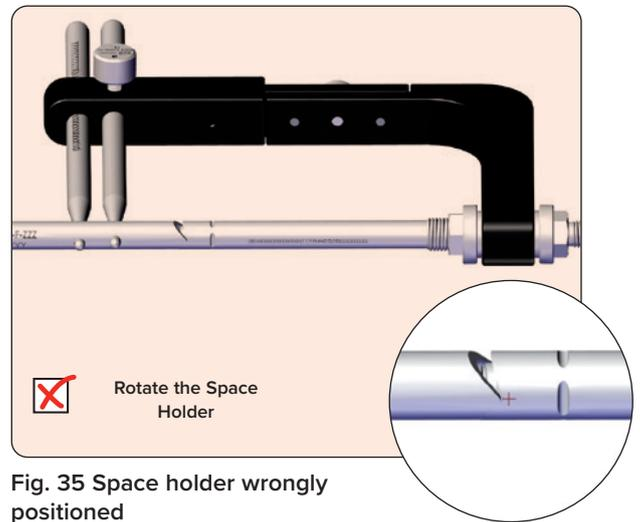

Fig. 35 Space holder wrongly positioned
1. The marking “THIS SIDE UP” on the Space Holder is not facing upwards and the connection between drill guide assembly and nail is loose (Fig. 35).